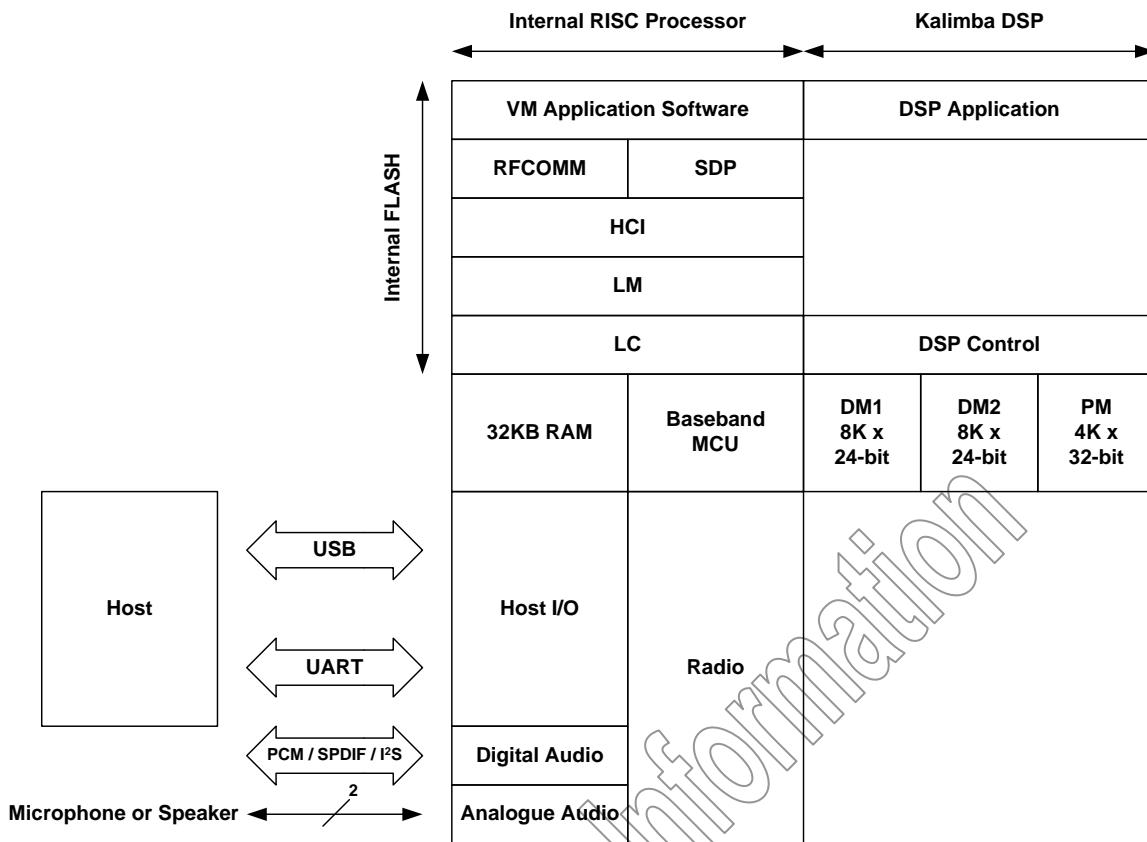

Figure 7.2: Kalimba DSP Stack
In Figure 7.2, this version of the stack firmware shown requires no host processor (but can use a host processor for debugging etc.). All software layers, including application software, run on the internal RISC processor in a protected user software execution/environment known as a Virtual Machine (VM).